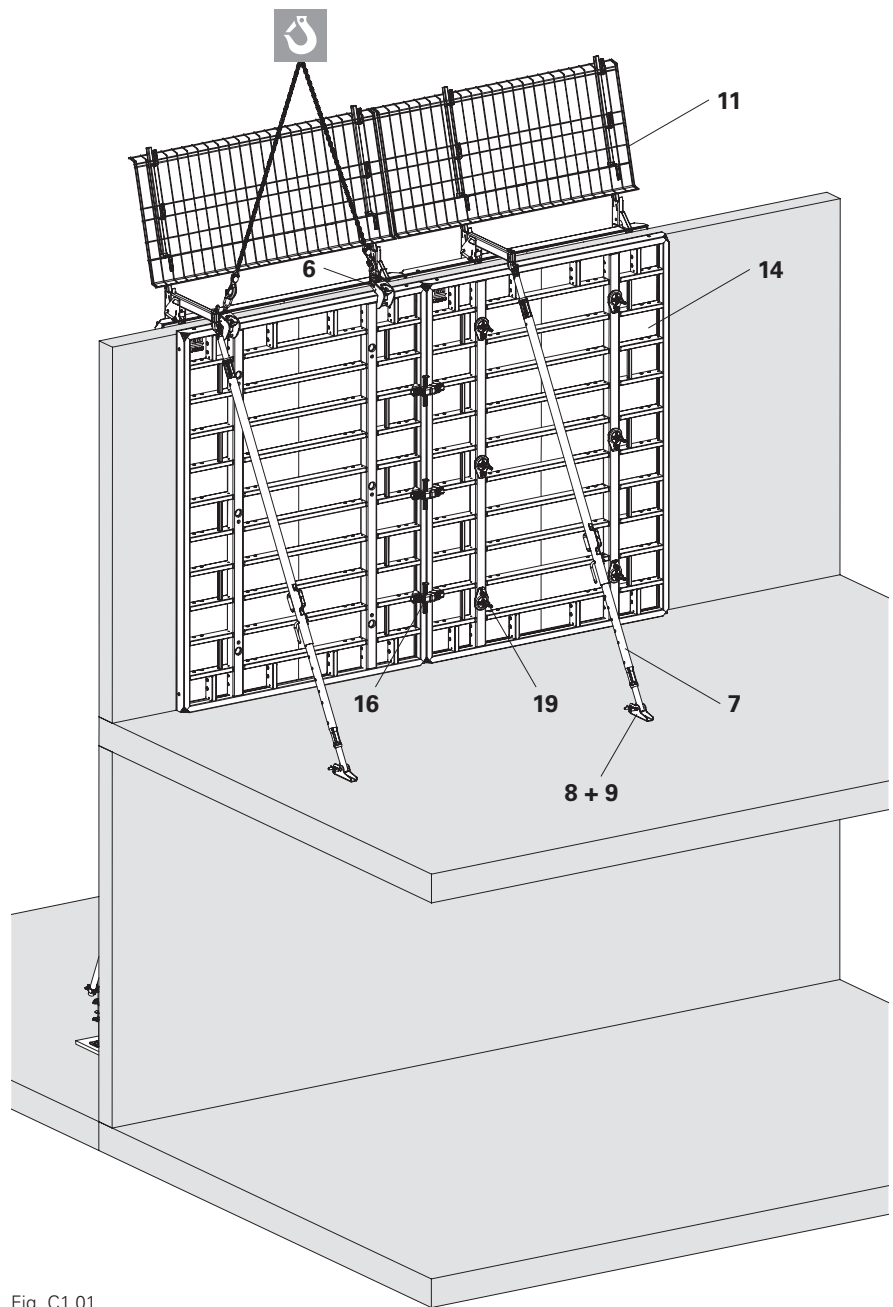

Fig. C1.01
1. Fit the Lifting Hook MX 1.5t (6) to the formwork unit (14) and attach it to the crane.
2. Remove Anchor MX15 (19) and Alignment Coupler BFD (16).
3. Swivel out the formwork unit (14) diagonally between the Push-Pull Props RS (7).
4. Move formwork element (14) to the next place of use or store for dismantling.
- (Fig. C1.01)
2. Fit the Lifting Hook MX 1.5t (6) to the formwork unit (14) and attach it to the crane.
3. Remove Anchor Bolt SW24 Ø14/20x130 TG (9) from Base Plate-3 f. RS 210-1400 (8).
4. Remove formwork element (14).